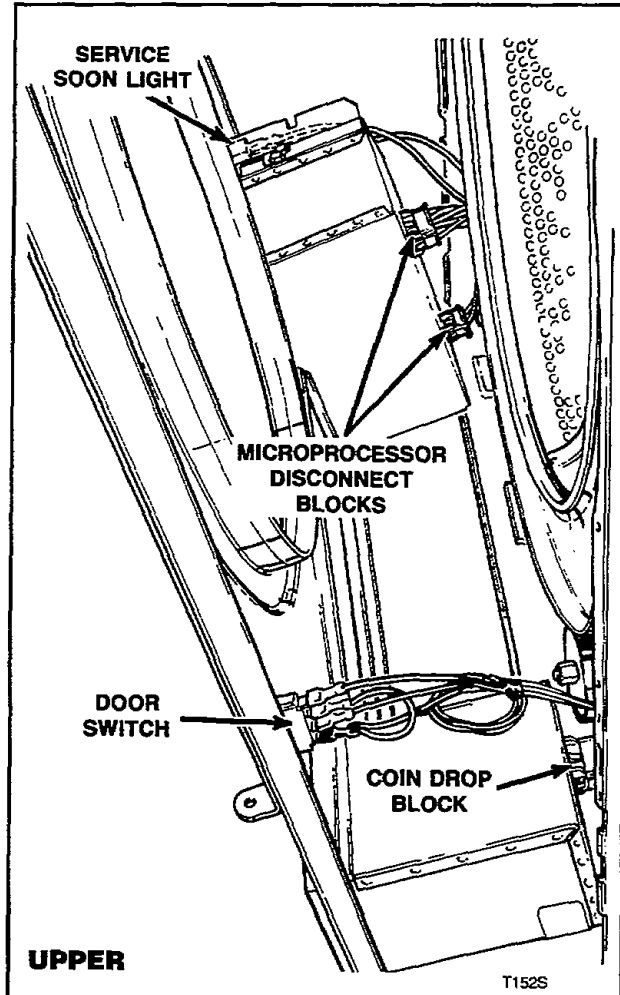

Figure 5
- While supporting front panel, tip the top forward slightly and lift up and out far enough to disconnect door switch wires, Figure 5, if required.
**UPPER (Figure 5)**